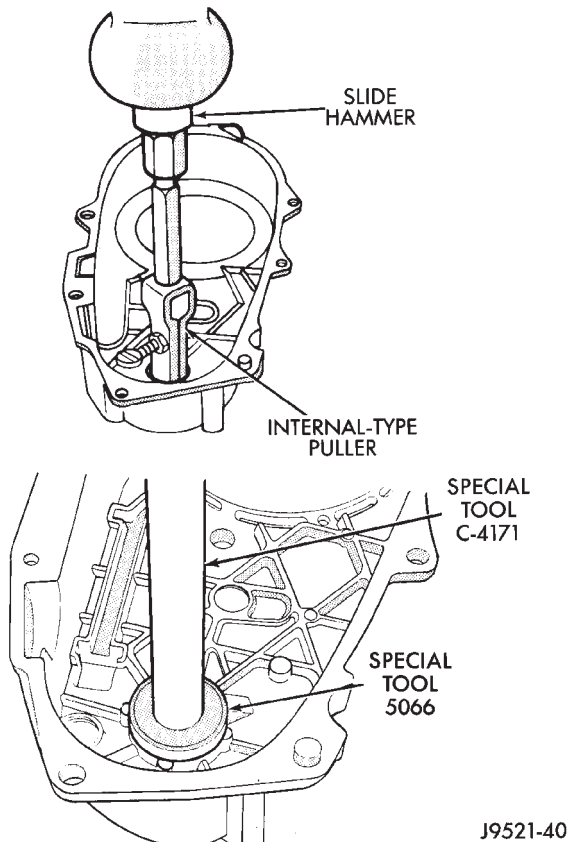

Fig. 70 Front Output Shaft Rear Bearing Installation
(55) Replace front output shaft rear bearing (Fig. 70). Remove bearing with internal puller and slide hammer. Install new bearing with Tool Handle C-4171 and Installer 5066. Lubricate bearing after installation.